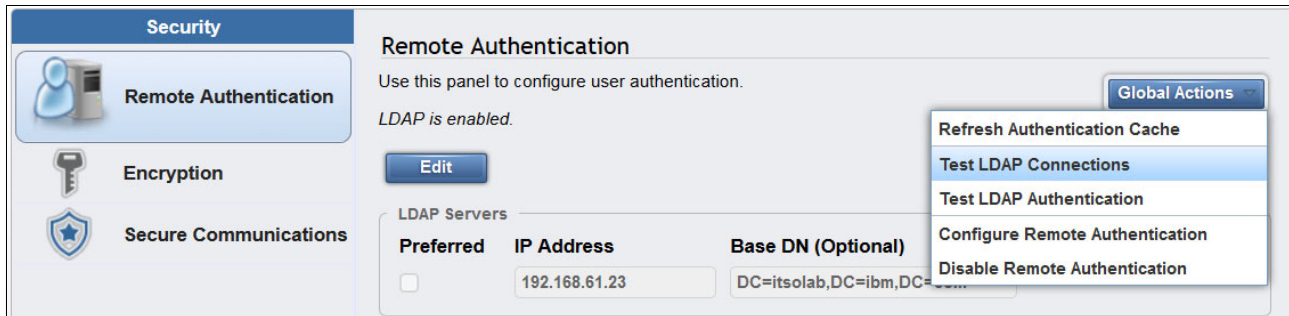

Figure 9-50 Test LDAP Connections
1. Select **Settings** → **Security**. On the Remote Authentication panel, click **Global Actions** (Figure 9-50) and then select **Test LDAP Connections**.